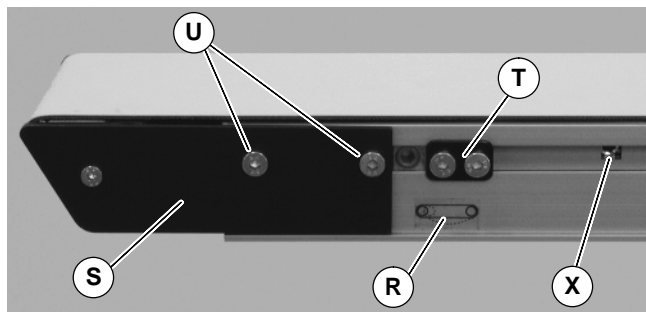

Figure 39
1. On tension end of the conveyor, identified with a  label (R of Figure 39), adjust head plate assembly (S): On both sides of conveyor, loosen fastening screws (U) and rotate pinion gear (X) to adjust head plate assembly.
2. Adjust head plate assembly so the edge of the axle support plate (BS of Figure 40) is separated from the end of the conveyor (BT) by 1.125" (29 mm). Tighten fastening screws (U of Figure 39) on both sides of conveyor to 60 in-lb (7 Nm).
3. If equipped with cam tracking assemblies (T of Figure 39) position against head plates and adjust belt tracking. Refer to “Conveyor Belt Tracking”, page 16.